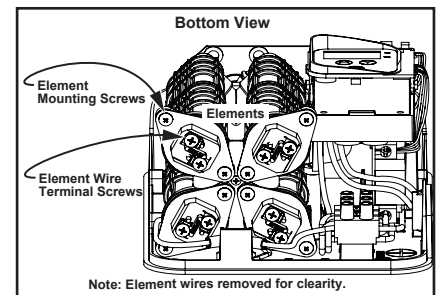

Figure 12 - Bottom view, element(s).
- 1 Viewing the bottom of the unit with the front cover removed, take a moment to note how the elements are installed. See Figure 12.